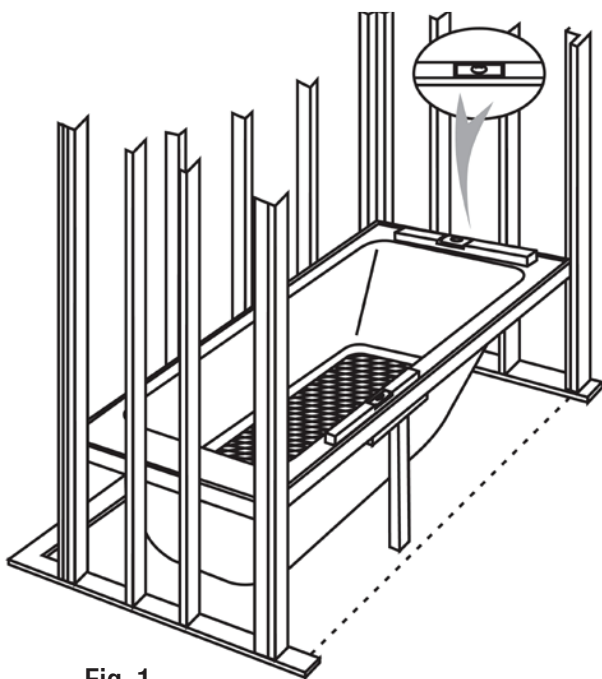

Fig. 1
3. Set the unit into place and level side to side and front to back as per Fig. 1. Do necessary shimming, assuring a firm uniform footing. Mark the location of the drain on the floor.